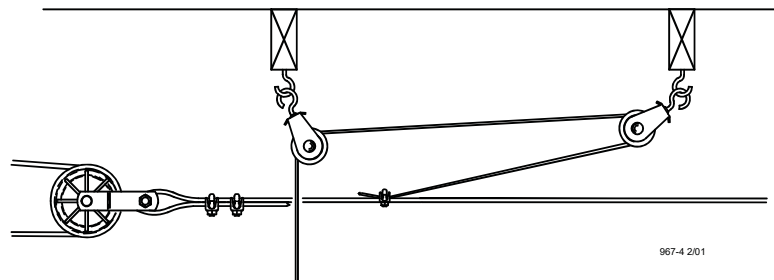

Figure 18. "Throwback" cable arrangement
3. Allow enough cable length for installation to the feeder line and to the adjustment leveler. Sufficient cable is included to provide "throwbacks" on drops located beneath and near the winch. **Figure 18.** shows a "throwback" cable arrangement.